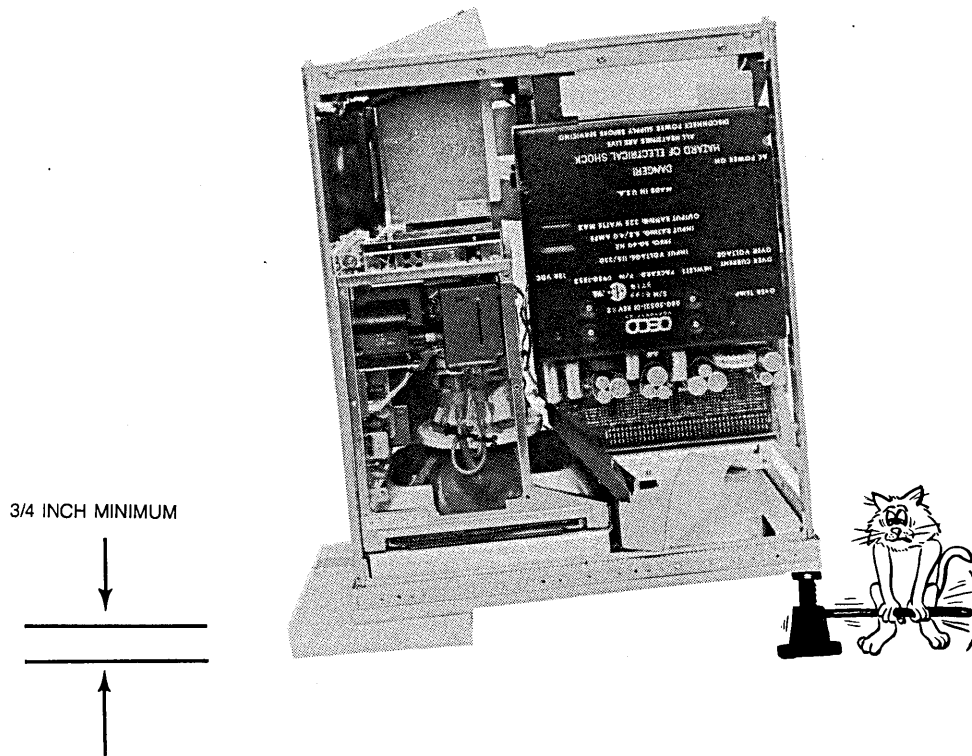

Figure 6-47. Final Positioning of Front Panel and Color Module
To prevent damage to the front panel or the knob, support the instrument as described in the next step and as shown in figure 6-47.
- v. Set the instrument on its front panel and elevated it by a 3/4 inch support on the right and the left side of the front panel (see figure 6-47).